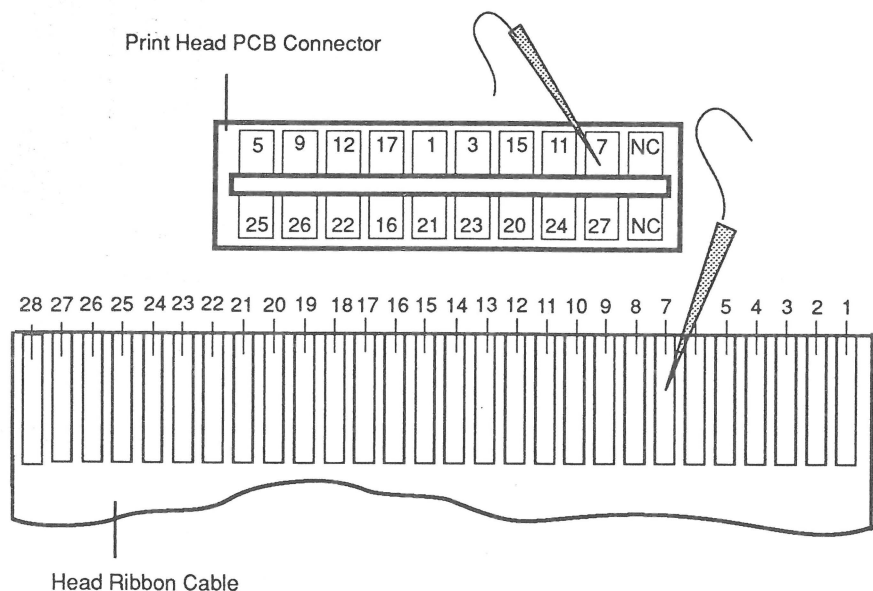

Figure 3-11
- c) Check for continuity between the pins on the head ribbon cable and the corresponding pins on the print head PCB connector. The pins to be checked are shown below in **Figure 3-11**.